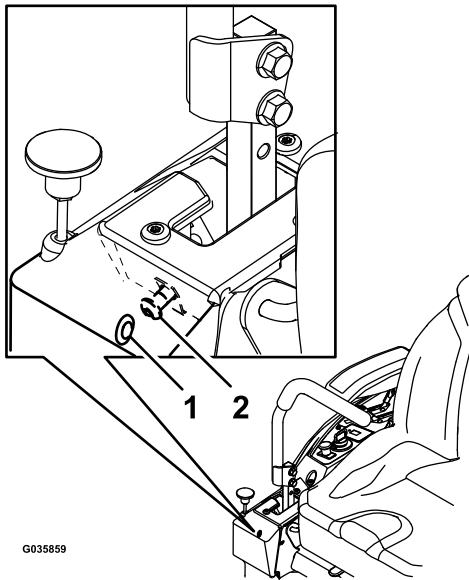

Figure 79
6. If the machine tracks to the right, insert a 3/16-inch hex wrench through the access hole in the right front cover panel and rotate the tracking screw clockwise or counterclockwise to adjust the travel of the lever (Figure 79).
7. If the machine tracks to the left, insert a 3/16-inch hex wrench through the access hole in the right front cover panel and rotate the tracking screw clockwise or counterclockwise to adjust the travel of the lever (Figure 79).